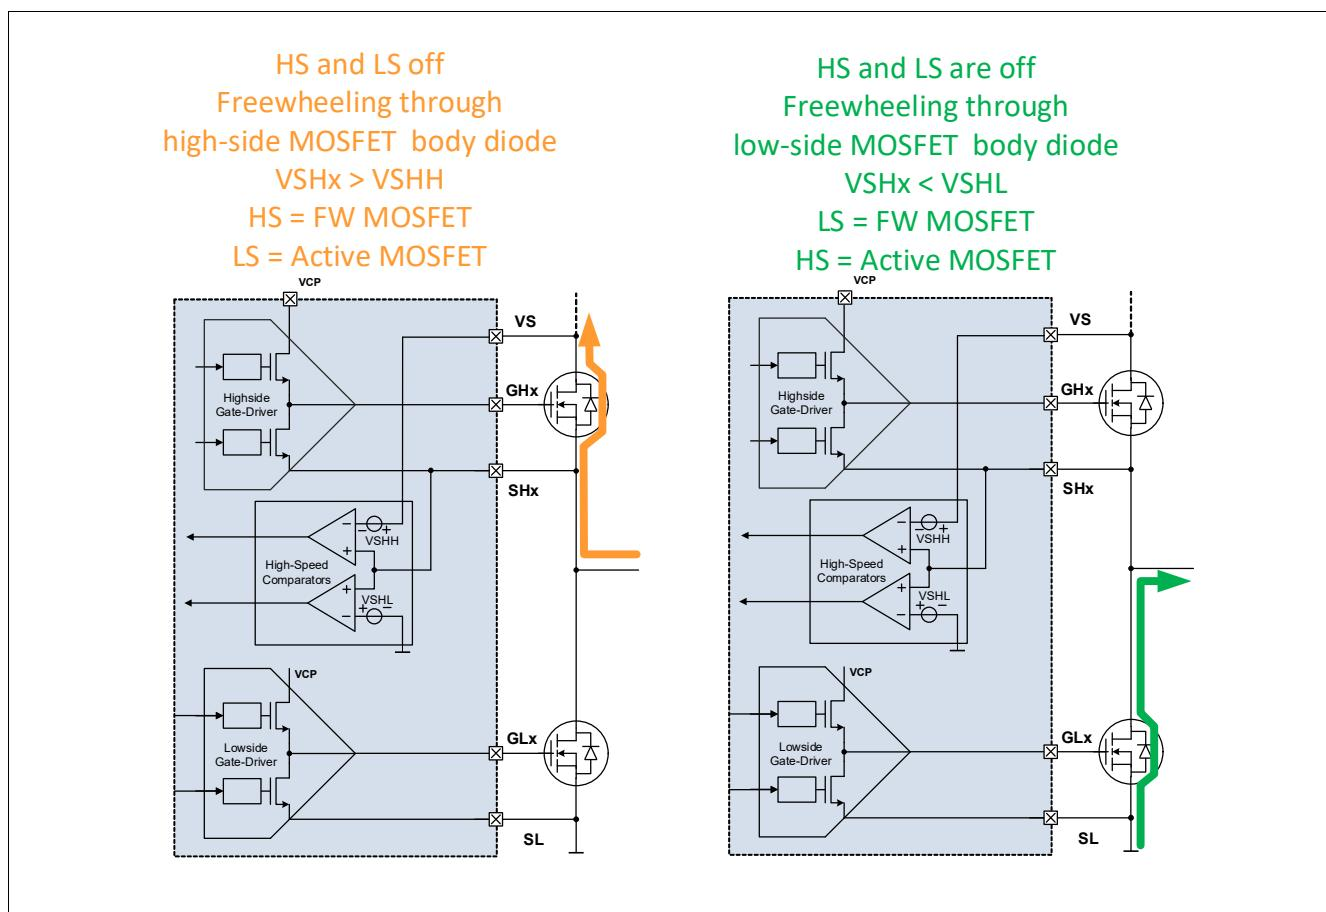

Figure 51 Detection of the active and FW MOSFET (EN_GEN_CHECK = 1)- Principle
If **EN_GEN_CHECK** = 1, right before each MOSFET activation, the device detects which MOSFET of the half-bridge is the active MOSFET and which MOSFET is the free-wheeling (FW) MOSFET (**Figure 51**):